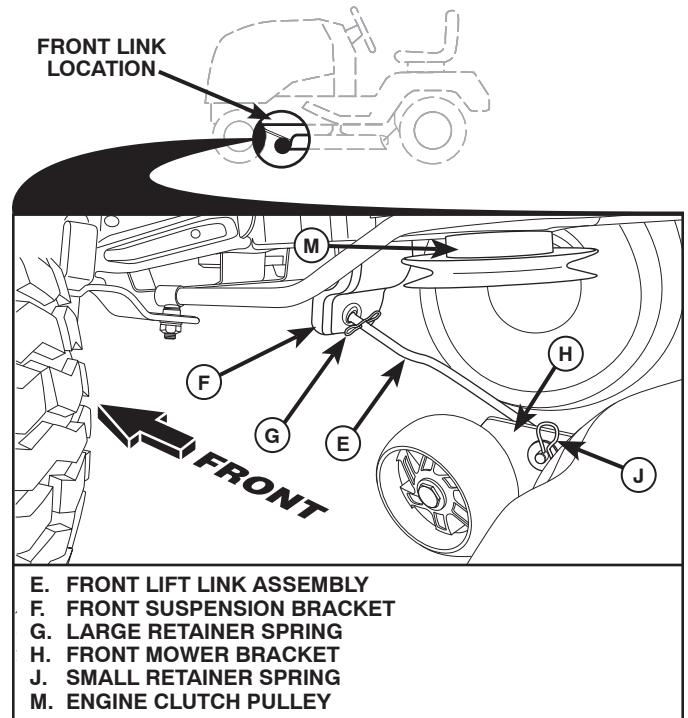

Fig. 31
## 8 ATTACH FRONT LINK (E) (See Fig. 31)
- From front of tractor, insert rod end of front link (E) through front hole in tractor front suspension bracket (F).
- Move to left side of mower and insert large retainer spring (G) through hole in front link (E) behind front suspension bracket (F).
- Insert other end of link (E) into hole in front mower bracket (H) and secure with washer and small retainer spring (J).